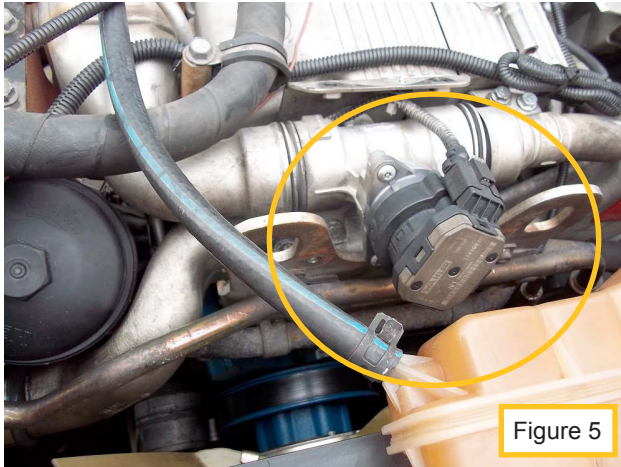
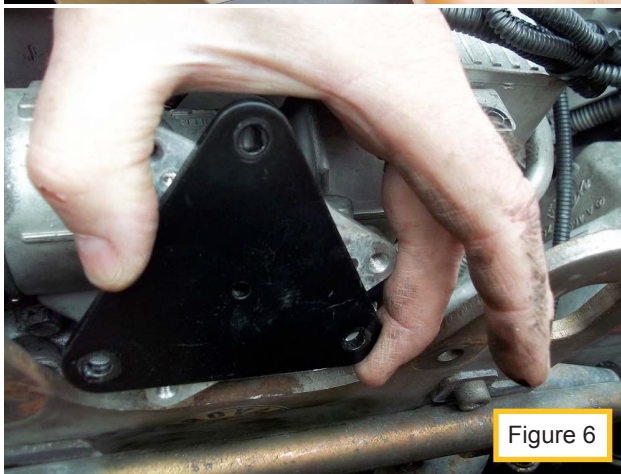

Figure 5
Figure 6
- Remove the three screws securing the EGR valve and set EGR valve on top the intake (see figure 5&5a). Install EGR valve opener (98821285) adapter by aligning the tab on the adapter in the slot where the EGR valve was positioned. Rotate the EGR valve adapter counterclockwise and secure using the existing three screws (see figure 6&7). This will open the EGR flap inside the EGR cooler outlet pipe.